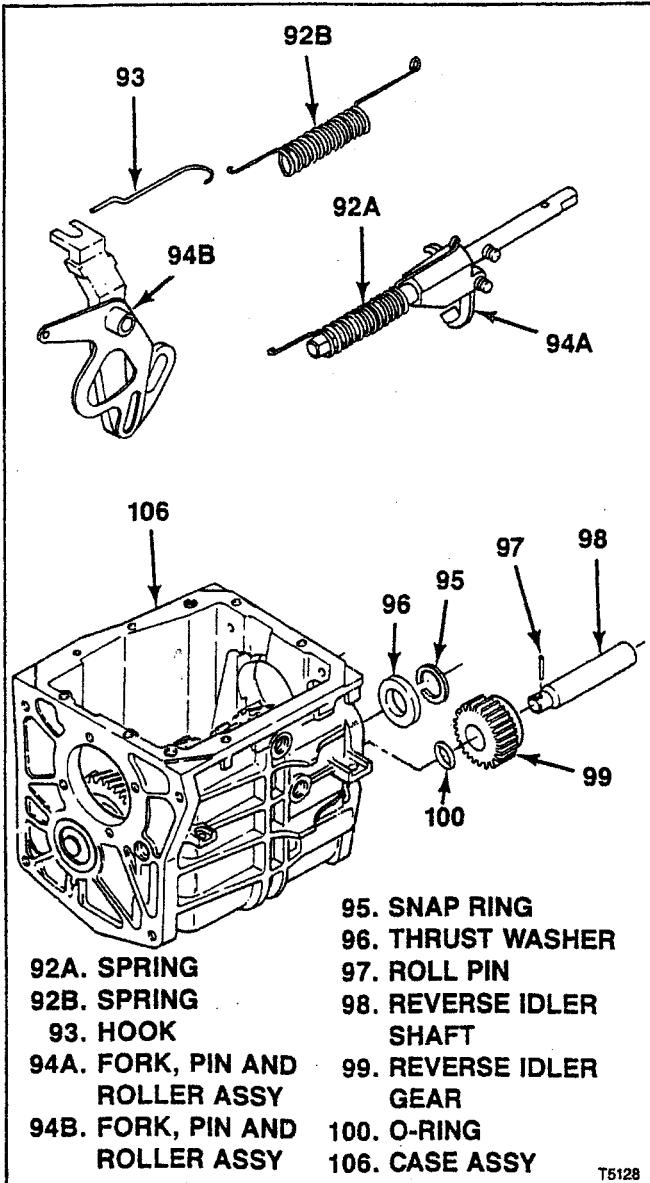
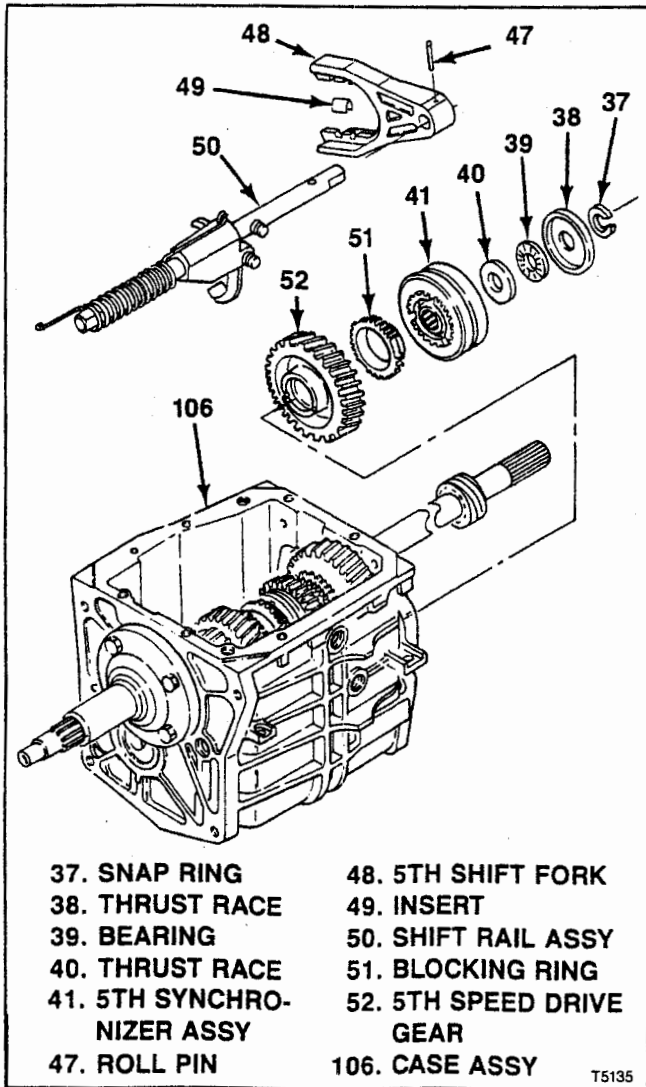

Figure 7-6. T5 NWC Reverse Fork and Idler Gear
Figure 7-13. T5 NWC 5th Gear, Shift Fork and Synchronizer
7-9. INSTALLATION OF T5 NWC REVERSE FORK AND IDLER GEAR. With assembly completed as described through paragraph 7-8, proceed as follows (see figure 7-6):
7-15. INSTALLATION OF T5 NWC 5TH GEAR, SHIFT FORK AND SYNCHRONIZER. At rear of transmission case (106), install parts as follows (see figure 7-13):
- b. Attach 5th shift fork (48) to shift rail assembly (50) with roll pin (47). Install inserts (49) on 5th shift fork.
- c. Engage 5th shift fork (48) with previously assembled (paragraph 7-7) 5th synchronizer assembly (41) and install together in transmission noting the following:
1. Install 5th synchronizer assembly (41) over rear end of countershaft gear (105).
2. Guide shift rail assembly (50) through reverse fork, pin and roller assembly (94A or 94B, figure 7-6) and, when used, spring (92A, figure 7-6) previously installed.
- d. Install thrust race (40), bearing (39), and thrust race (38). Retain these parts by installing snap ring (37).
On units with fork, pin and roller assembly (94B, figure 7-6), 5-R shift lever is permanently attached to the fork. In the following step, it is necessary to engage lever with roller on shift rail (50, figure 7-13) only.
- a. Work 5-R shift lever (36) into engagement with rollers on previously installed shift rail assembly (50, figure 7-13) and fork, pin and roller assembly (94A, figure 7-6).
- b. From outside transmission install pivot pin (34) through case and 5-R shift lever (36 or part of 94B, figure 7-6). Torque pin to 20 lb-ft (27 Nm).
- c. Inside transmission, attach lever to pin with retaining ring (33).
- d. Install back-up switch (35).
- e. Using needle nose pliers, hook free end of previously installed spring (92A or 92B, figure 7-6) on pin in transmission case (106).